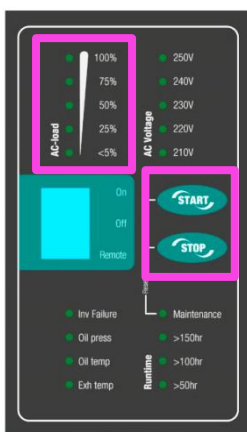

Figure 7: WP-PMG local panel
- 1 Push the START button on the WP-PMG local panel (Figure 7) and hold for two seconds to initiate the full automatic starting procedure. As a result, the electric system is activated.
- 2 Press the PMG STOP button (Figure 7) and hold for 2 seconds.